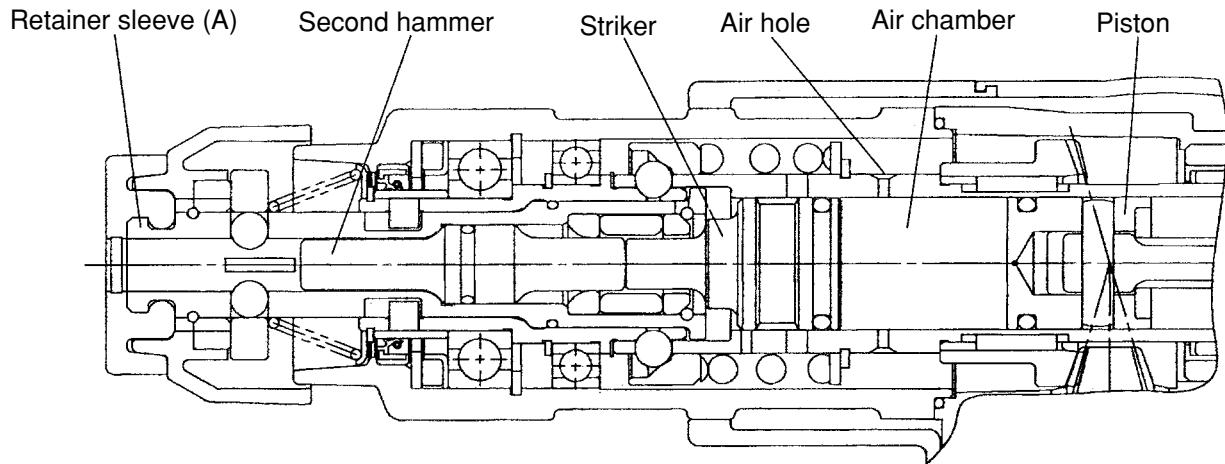

Fig. 4
When the drill bit is released from concrete surface, the second hammer and retainer sleeve (A) move to the position illustrated in Fig. 4, and the striker moves out of striking position. When this occurs, the air holes are opened and the pressure within the air chamber remains unchanged even though the piston continues to reciprocate, thereby preventing striking operation.